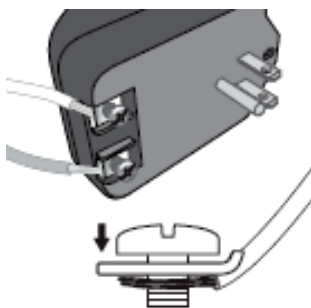

Figure 13
4. Attach one wire to each screw post underneath the metal plates. Tighten screws to secure wires (Figure 13)
Once powered on, the display will show a number of messages upon start-up (Figure13)